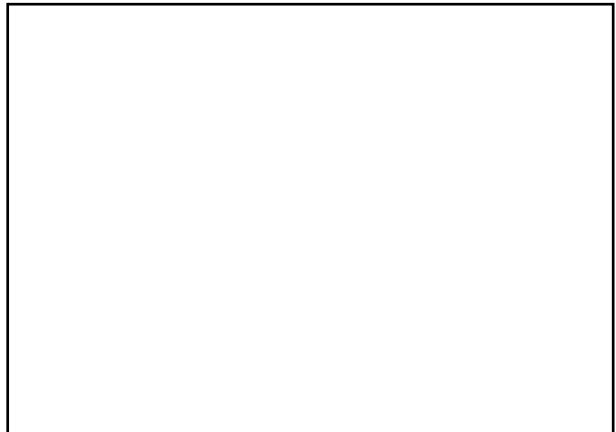

Fig. 5
Fit lamp unit (10, Fig. 5) with clip (16) into headlamp housing (17), press headlamp unit (10) into place and screw up tightly.